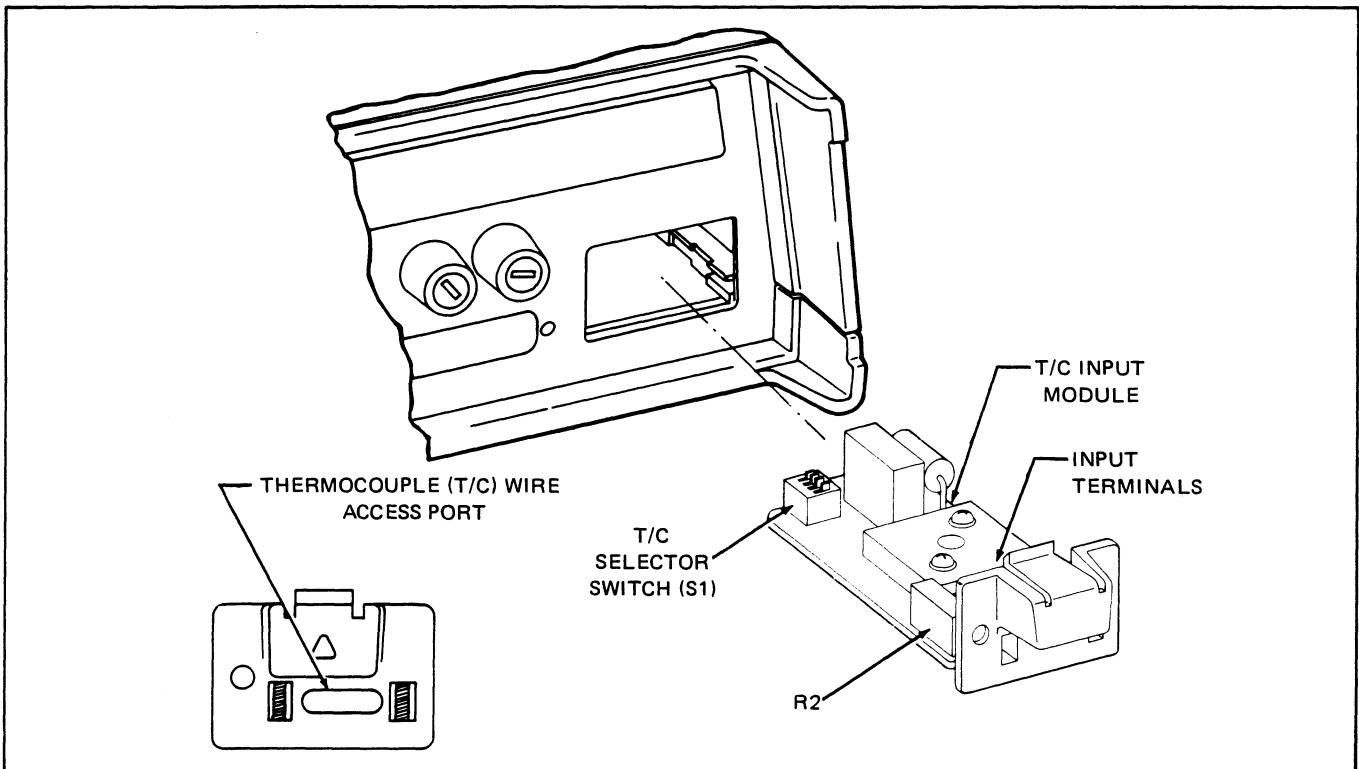

Figure 2-2. Thermocouple PCB Access
1. Remove the Thermocouple Input Module from the instrument through the access port on the rear panel, refer to Figure 2-2.
1. Remove the 2190A's Thermocouple Input Module, refer to Figure 2-2.